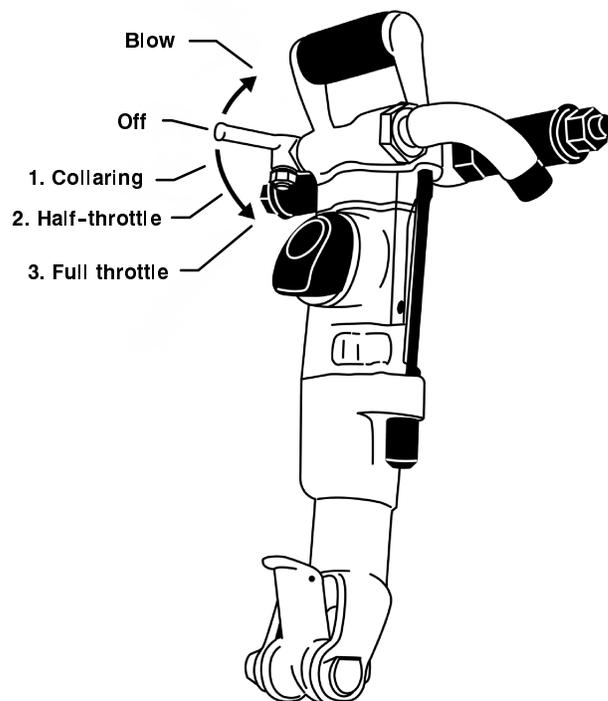

Figure 1.
- The jackhammer is controlled by moving the lever as shown in Figure 1.